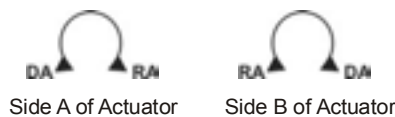

Figure 22: Mode Selection
Figure 21 and Figure 22 indicate how the drive direction for the actuator depends on the spring return direction and the position of the mode selection switch.
The DS24-180-T Floating Electric Spring Return Actuators are factory set at DA, 90 degrees of travel as illustrated in Figure 22. To reverse the rotation, either move the mode selection switch from Direct Acting (DA) to Reverse Acting (RA), or reverse the control input wiring to GRY 3 and ORN 4.